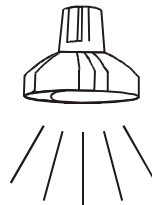

Figure 5.49: LUXmeter probe positioning
- The probe (S) is positioned between the earth electrode (E) and auxiliary earth electrode (H) in the ground reference plane (see figure 5.49).
- The distance from the earth electrode (E) to the auxiliary earth electrode (H) is at least 5 times the depth of earthing electrode rod or the length of the band electrode.
Step 3 Follow the connection diagram shown in figure 5.49 to perform resistance to earth measurement. Use the **Help** function if necessary.